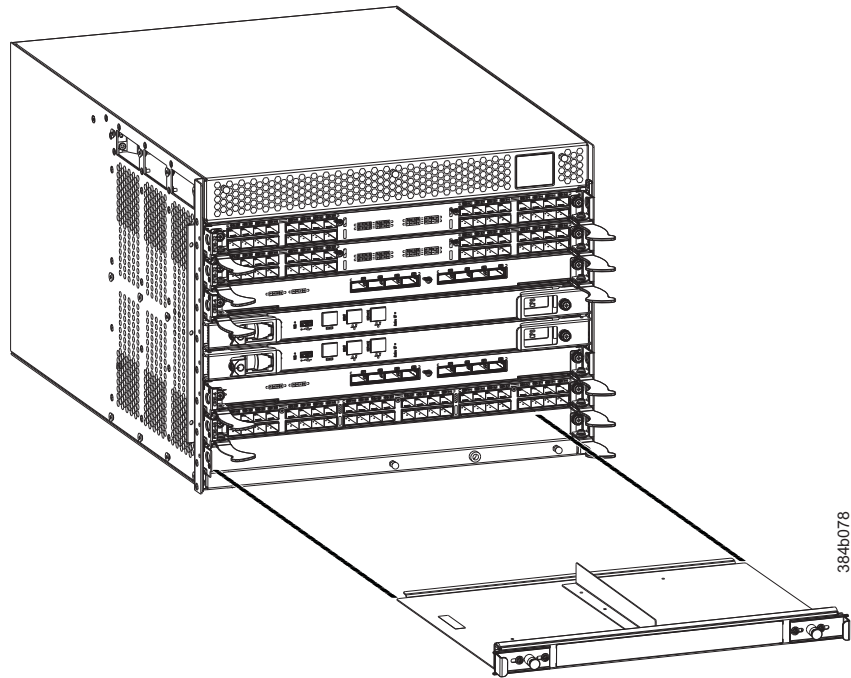

Figure 30. Filler panel removal and installation
3. Using the handles, pull the filler panel out of the chassis (Figure 30 on page 67).
1. Orient the filler panel in front of the empty slot (see Figure 30).